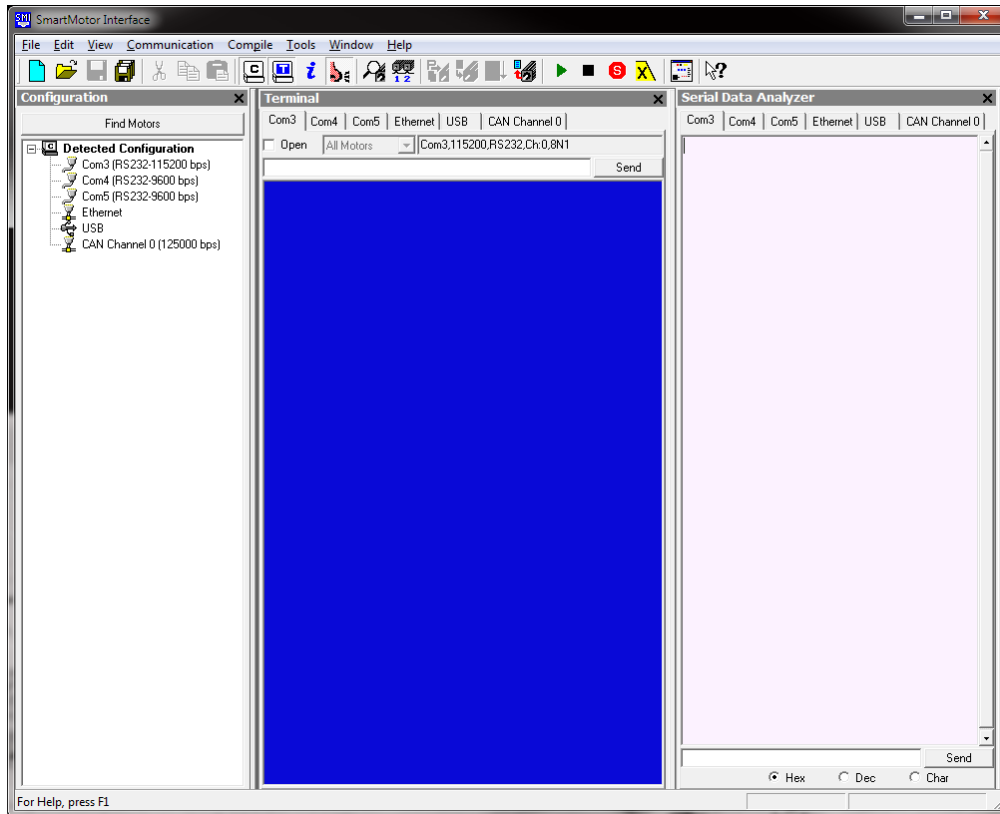

Figure 18: SMI View Layout
- 5) Now click on **View** and make sure that the **Terminal**, **Configuration**, and **Serial Data Analyzer** windows are checked. Your application layout should now look like the one in Figure 18.